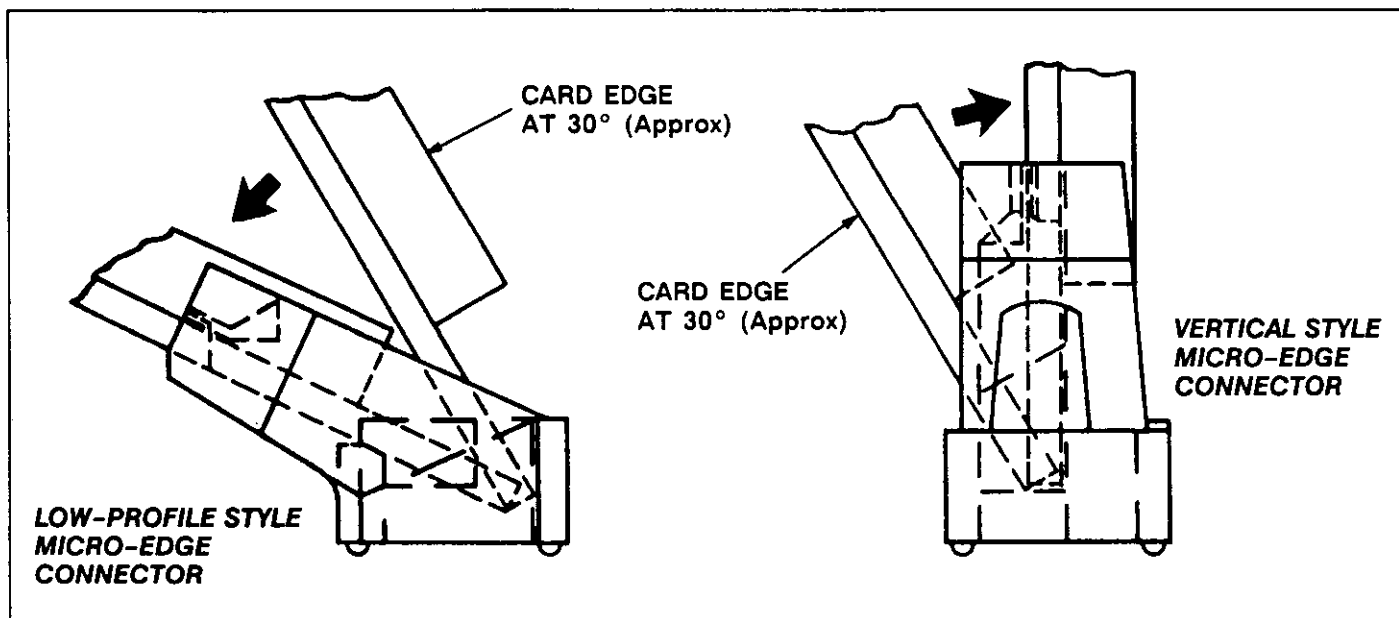

Fig. 2
3. Grasp the module board at the top edge and insert the contact pad edge into the card slot of the connector at an angle of approximately 30° from vertical until it is seated in the card slot. See Figure 2.